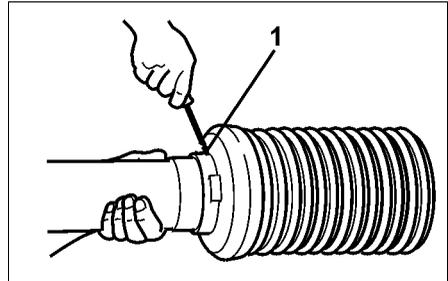

Fig. 20
- Remove fixing bolt (Fig. 20/1)